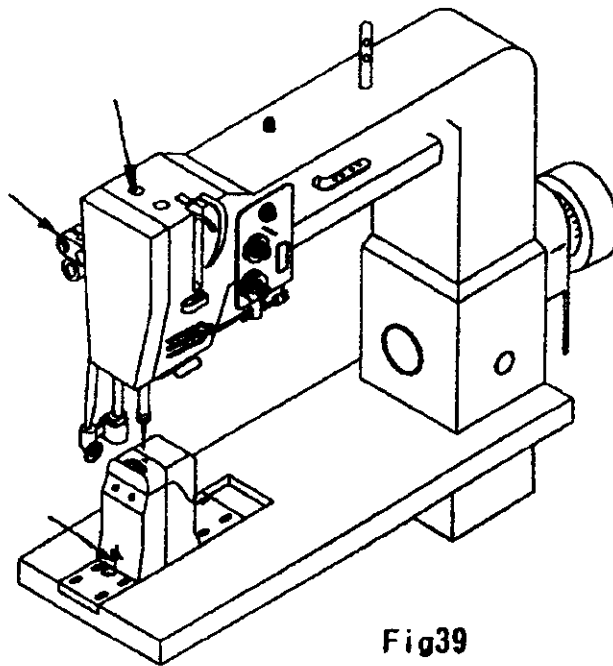

Fig39
- 3) Lubricate the portion as the arrow indicated on the fig.39